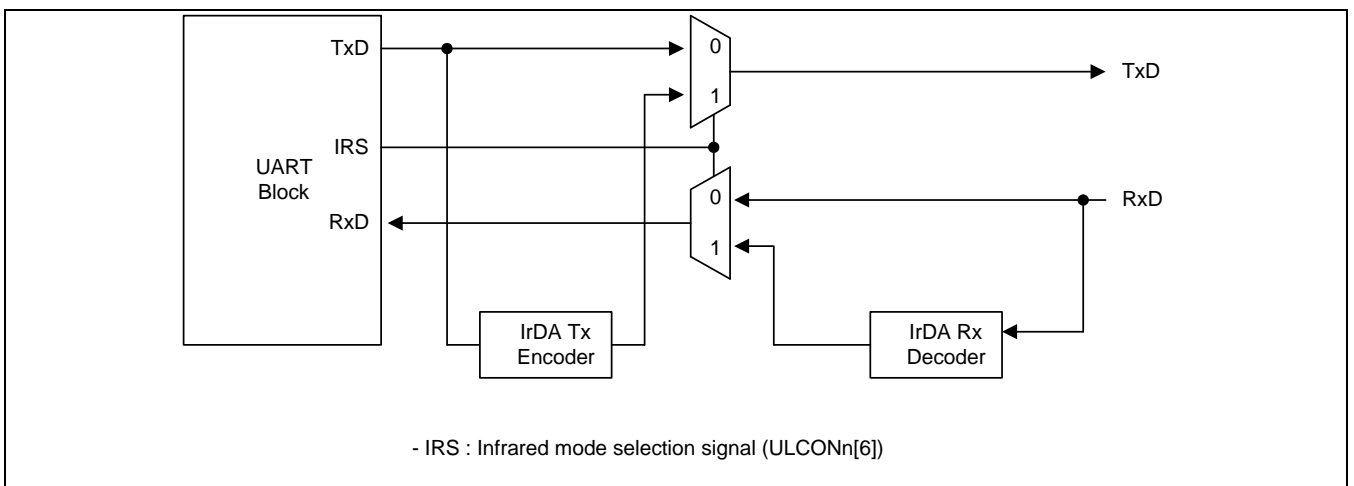

Figure 31-4. IrDA Function Block Diagram
The 6410 UART block supports infra-red (IR) transmission and reception, which can be selected by setting the Infra-red-mode bit in the UART line control register (ULCONn). Figure 31-4 illustrates how to implement the IR mode.